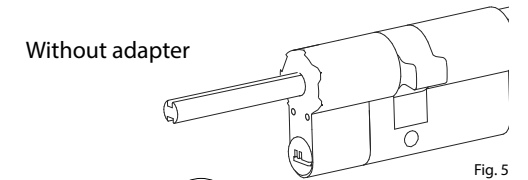

Fig. 5
- < 43 mm = no adapter required (Fig. 5)